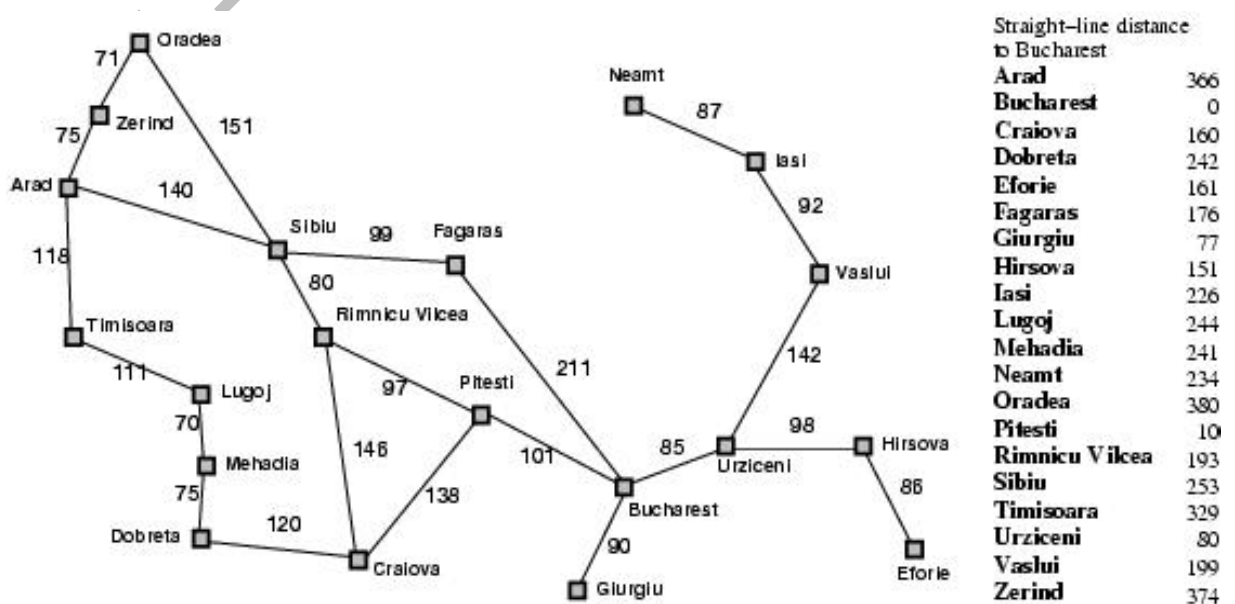

Fig.1: graph for Route Finding
11. Discuss about A* search algorithm and find the optimum route from Arad to Bucharest, consider the graph in the below figure.1 (10)